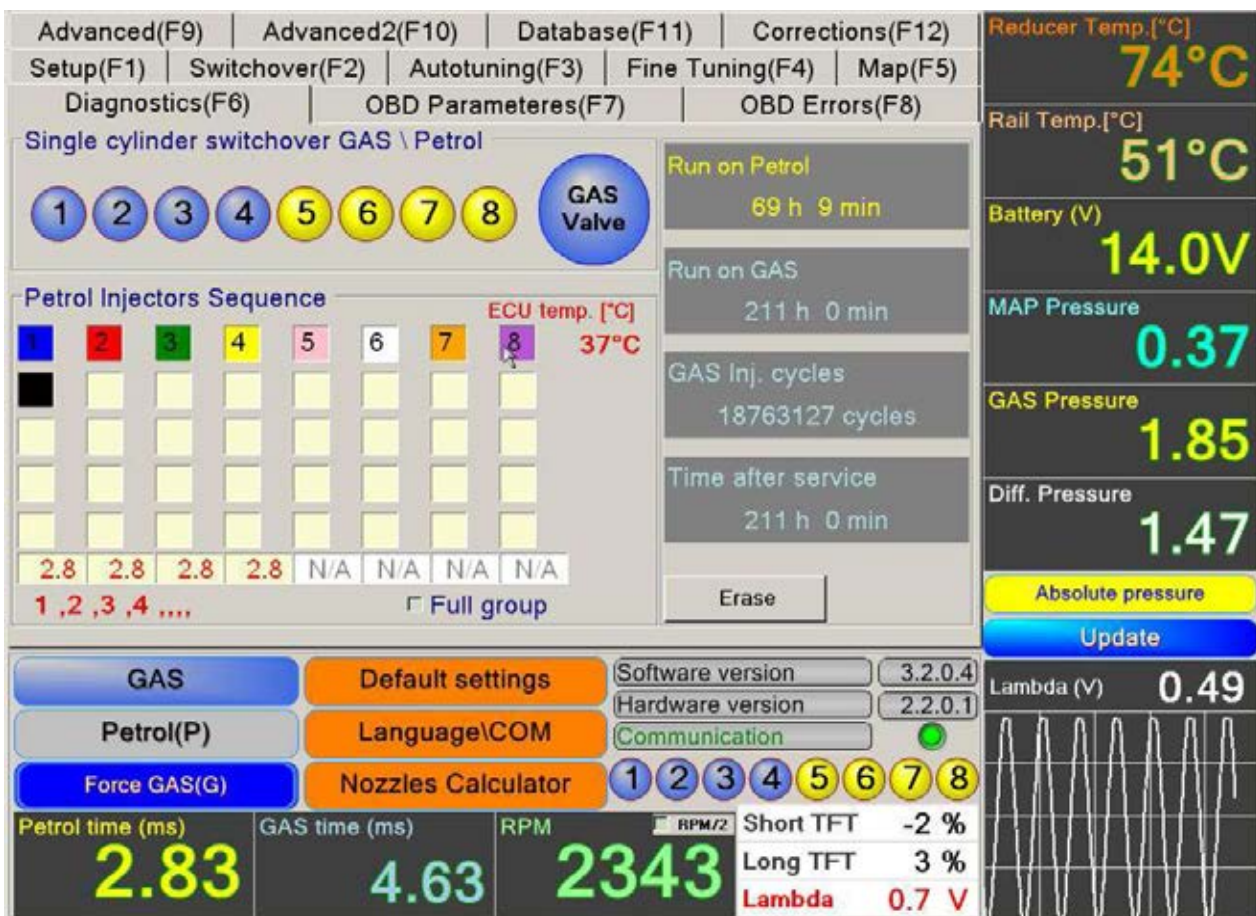

FIG.8
13. Menu "DIAGNOSTICS" (F6) – FIG.8